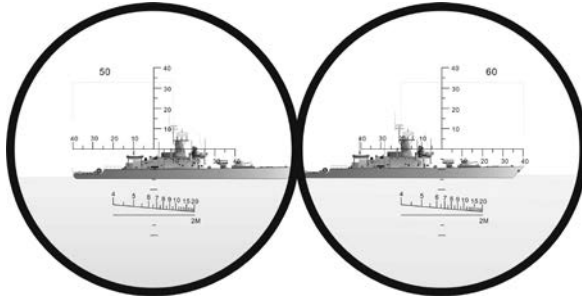

FIGURE 6. MEASURING OF BIG VIEW ANGLE
B. When the Horizontal View Angle is bigger than the horizontal scale range (-40~+40 mils), a vertical line splits(for example: mast, chimney etc.) on the object can be selected to make the necessary estimated measurements in a step by step fashion. The sum of the value from each step is used to obtain the measured value. As shown in Figure 6, the azimuth of target (cruiser) is 110 mils (60+50=110).